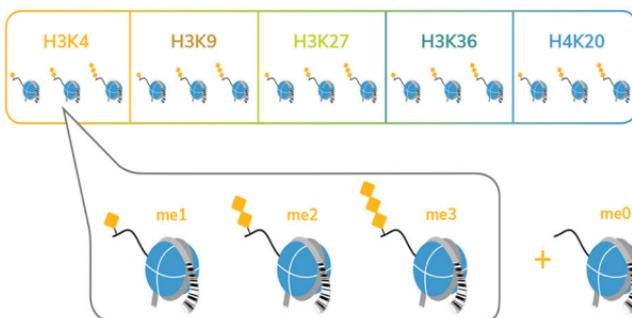
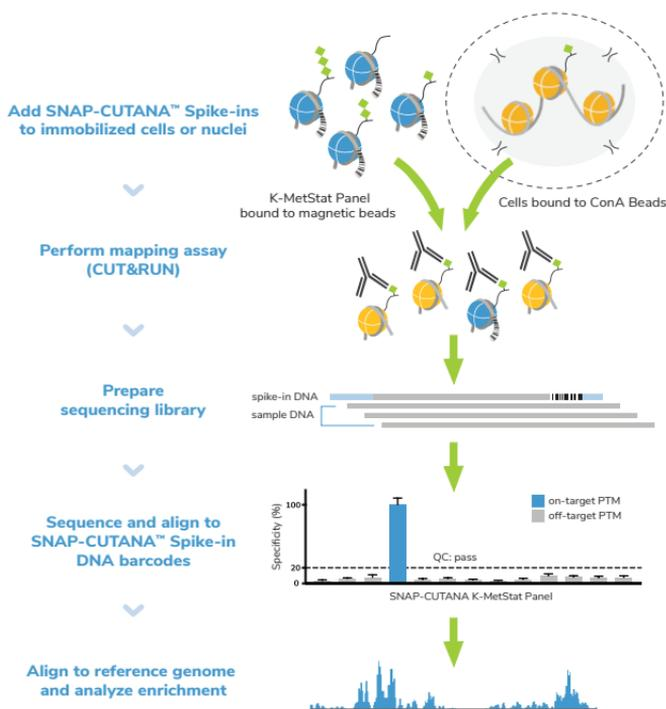

FIGURE 14
FIGURE 15
The K-MetStat Panel contains designer nucleosomes representing 16 distinct histone lysine methylation states (Figure 14). Each PTM is represented by two unique DNA-barcoded templates (A and B, for an internal technical replicate). Nucleosomes are individually coupled to magnetic beads and pooled into a single panel for convenient one-step addition to CUT&RUN workflows (Figure 15).
- Add the SNAP-CUTANA K-MetStat Panel to designated control reactions immediately prior to the addition of H3K4me3 or IgG control antibody (Figure 15).
- Add antibody, which binds its target in cells **and** in the spike-in panel (Figure 15).
- For each control reaction, determine the number of sequencing reads aligned to each PTM-specific DNA barcode (next page). Barcode read counts provide a useful measurement of PTM recovery and workflow success (Figures 15 & 16).